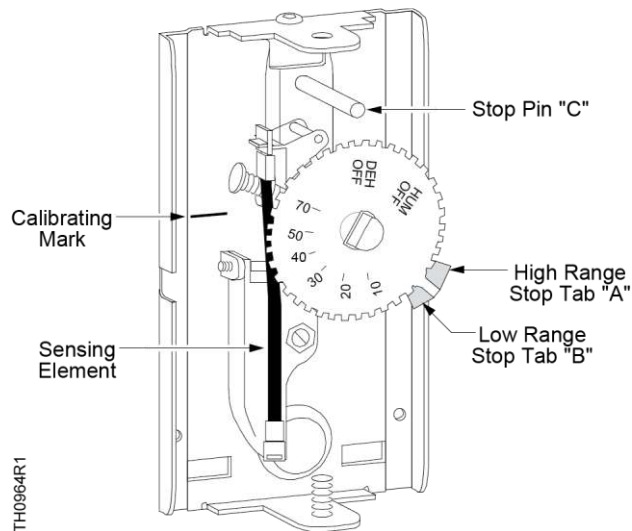

Figure 7. 134-1861 Humidistat Range Tabs and Stop
4. While holding the dial firmly in place, keep the setting in line with the calibrating mark, press Tab **A** (see Figure 7) and rotate it counterclockwise until it is against Stop Pin **C**.
4. While holding the dial firmly in place, keep the setting in line with the calibrating mark, press Tab **B** (see Figure 7) and rotate it clockwise until it is against the stop pin **C**.
4. While holding the dial firmly in place, keep the setting in line with the calibrating mark, press Tab **A** and rotate it counterclockwise until it is against Stop Pin **C**. Press Tab **B** and rotate it clockwise until it is against Stop Pin **C**. See Figure 7.